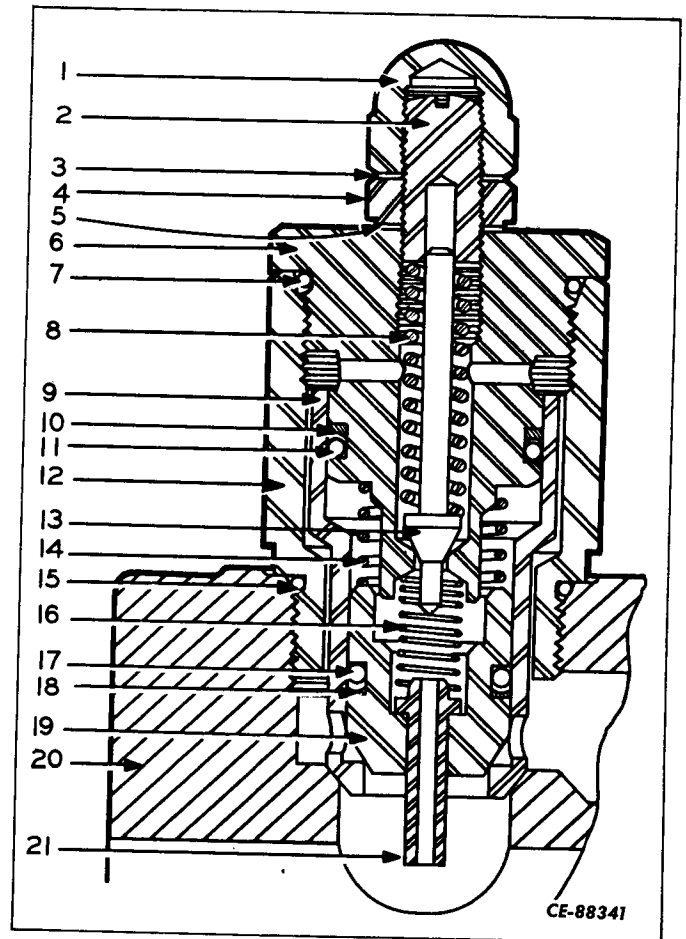

Figure 11-57
a. Loosen and remove the valve housing (12, Fig. 11-57) from the control valve body (20).
- a. Install new "O"-ring (17, Fig. 11-57) and back-up ring (18) on poppet (19).
- b. Lubricate the rings with clean hydraulic fluid. Install the large poppet (19) in the check valve poppet (9).
- c. Install the piston (21) in the center bore of the poppet (19).
- d. Install the small spring (16) over the piston (21) and place the poppet assembly aside.
- e. Place the pilot poppet (13) in the center bore of the plug (6). Install the spring (8) in the plug center bore and over the stem of the pilot poppet (13).
- f. Thread the adjusting screw (2) into the plug center bore until it begins to compress the spring (8).
- g. Install a new back-up ring (10) in the groove in the center of the plug (6). Install a new "O"-ring (11) below the back-up ring. Install a new "O"-ring (7) in the groove below the flange of the plug (6).
- h. Lubricate the "O"-ring (11) and back-up ring (10) with clean hydraulic fluid. Place the large spring (14) over the small diameter of the plug (6). Carefully slide the poppet assembly (9-16-19-21) over the plug.